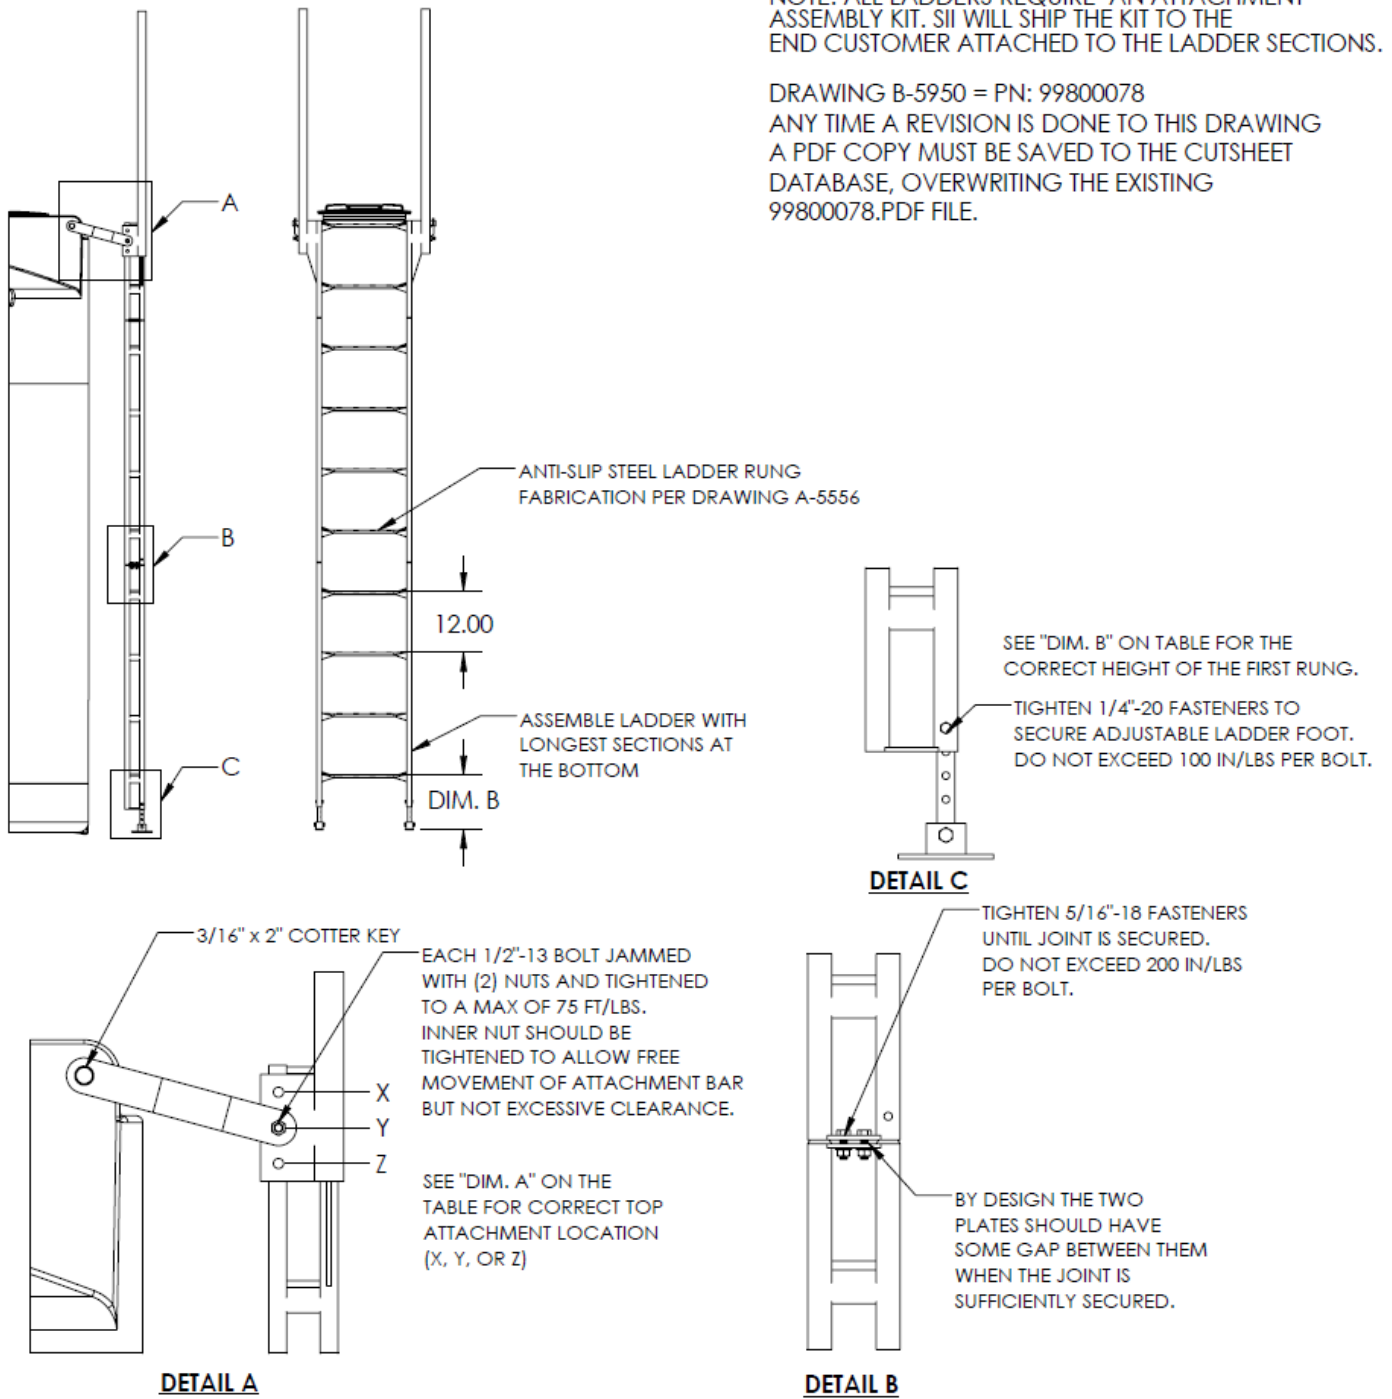

Figure 8.5
8.5.1 Steel ladders are designed in accordance with OSHA 1910.27 and are to be mounted next to the tank on a concrete pad at the same elevation as the bottom of the tank. The concrete pad area that the ladder mounts to must be of sufficient size as to comply with OSHA standards regarding proper access to and from the ladder. This should be determined by the construction site engineer based on the specific application. The pad must be of sufficient size to allow proper attachment of 1/4" anchor bolts (check with anchor bolt manufacturer for embedment and edge distance required). The ladder mounting system is designed to allow for tank expansion and contraction due to temperature and loading changes. Using the assembly drawing and table shown in Figure 8.5, verify that all parts are present and assemble accordingly.
8.5.2 Attach the two pivoting attachment arms to the ladder using 1 ea. 1/2"-13 x 2" hex head bolt and 2 ea. 1/2" - 13 hex nuts. Double nut each bolt by tightening the first nut to 75 ft. - lbs. of torque and then jamming the second nut to the first nut by holding the first nut and tightening the second to 75 ft. - lbs. of torque. Position the ladder on the tank and attach the top pivoting attachment arms to the tank with the ladder attachment tube and cotter pin provided (see Figure 8.5). Position the ladder parallel with the side of the tank and mark the 1/4" anchor bolt locations. Install appropriate 1/4" anchor bolts and attach the bottom of the ladder to the concrete pad. Anchor bolts are not provided by the manufacturer and must be purchased by the customer.